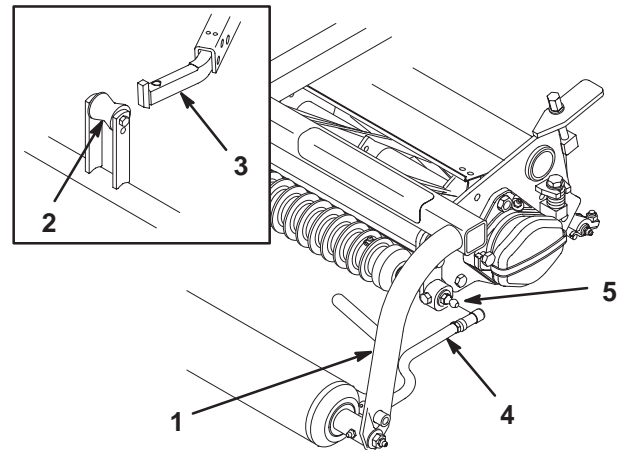

Figure 12
2. Mount a washer and ball stud to each end of the front roller on the cutting units (Fig. 12).
3. Slide the cutting unit under the pull frame while hooking the lift roller onto the lift arm (Fig. 12).
4. Slide the sleeve back on the ball joint and rotate the pull arm down so the socket fits over the ball stud. Release the sleeve so it slides over the stud and locks the assemblies together (Fig. 12).